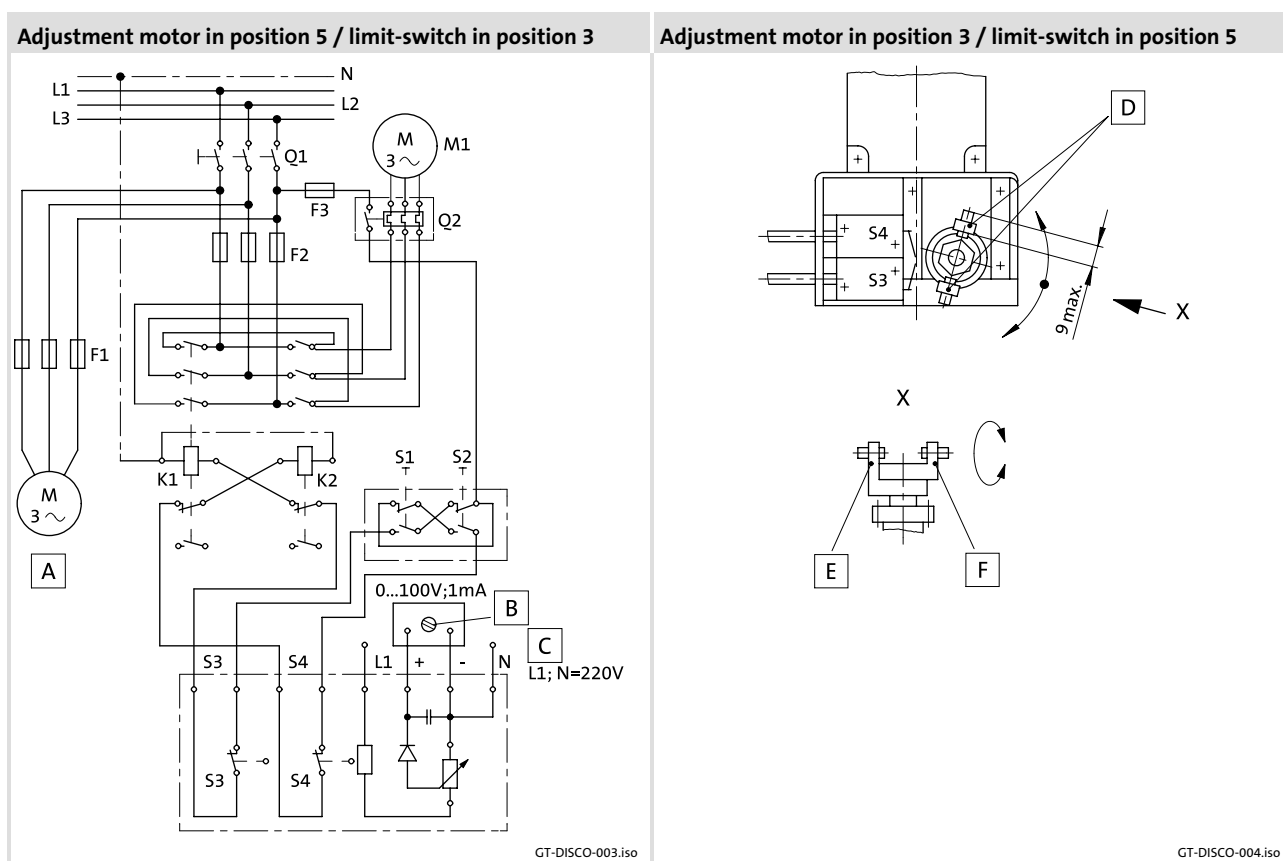

Fig. 2 Circuit plan of the servo adjustment mechanism with potentiometer indicator
1. Connect the electrical adjustment device as shown in the circuit diagram (Fig. 2).